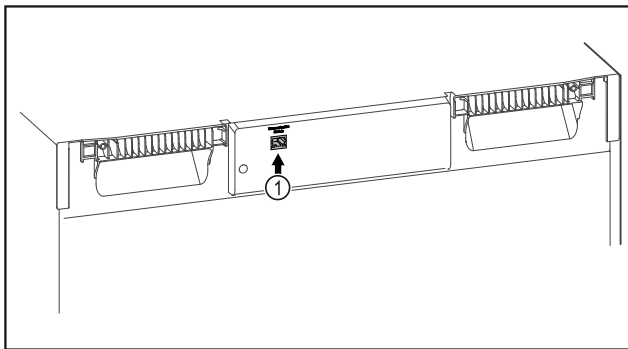

Fig. 153
- SmartModule Fig. 153 (1) is in use.